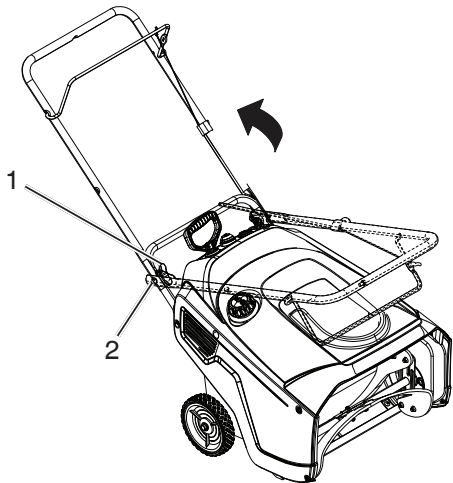

Figure 2
- Loosen the two handle knobs and pull out the two handle bolts until you can move the handle freely and rotate the handle to the operating position (Figure 2).